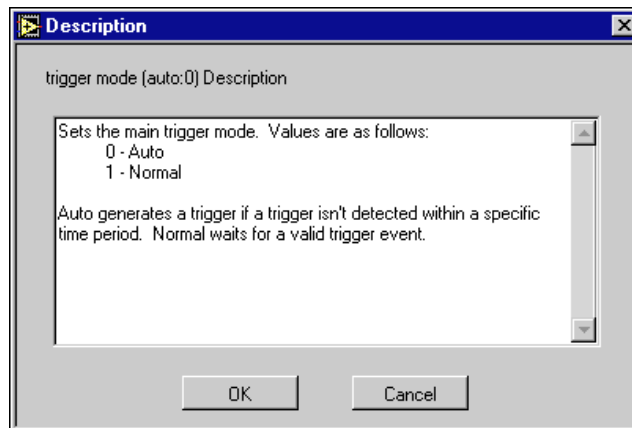

Figure 14. Front Panel Object help from the Description... Option.
- Control and Indicator help is the information most frequently viewed by the user. Provide a description of the individual controls and indicators. Front Panel Object help is obtained by selecting **Data Operations»Description. . .** from the object's pop-up menu (Figure 14). The help information contains the name and description of the parameter and its valid range and default value. Be sure to include information showing index numbers and corresponding settings for all ring and slide controls, settings corresponding to True/False positions on Boolean controls, and range information for numeric controls. You should also note any pertinent information concerning control interaction in the description boxes of each control affected by the interaction.